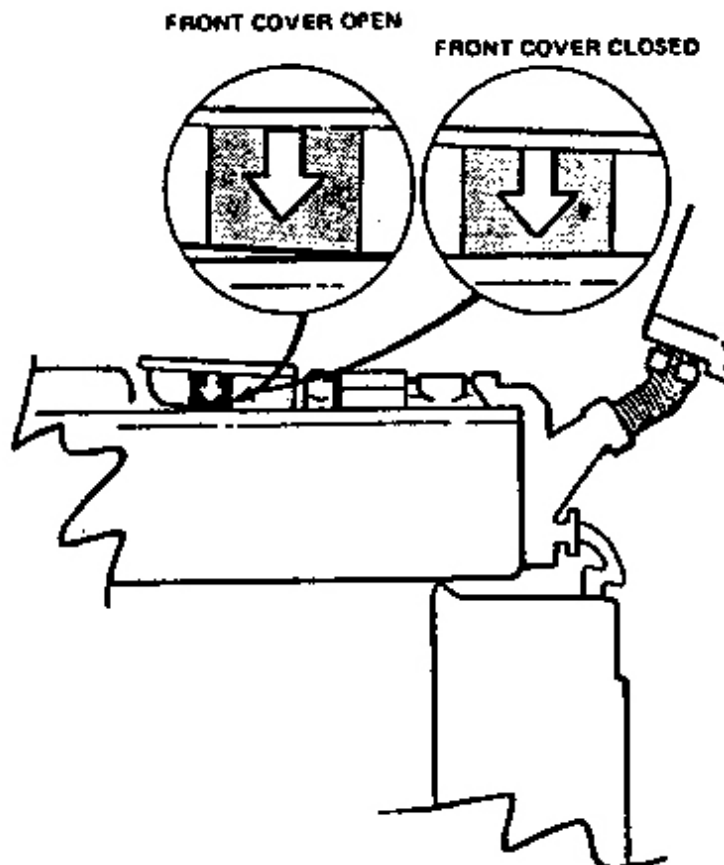

Figure 4-4 Comparison of decal before and after front cover closure
- Close the front cover & note the decal location. The decal arrow should be closer to the bottom cover (Figure 4-4). If not, it is an indication of front cover looseness which should be corrected.